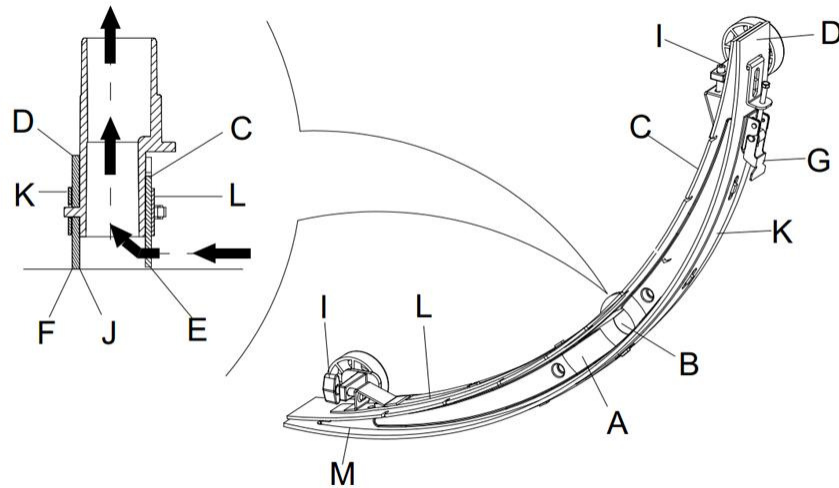

Figure 15
2. Press the power switch (41) to the “O” position to turn off the machine.
3. Unscrew the fixed handle (16) of the squeegee; take off the connector connecting the Recovery Vacuum tube of the squeegee, and take off the squeegee.
4. Use the squeegee lifting handle (14) to lift the squeegee support frame.
5. Clean the squeegee (Figure 15). Clean in particular the groove (A, Figure 15) and the dirt and fragments on the Vacuum tube. Check if the front squeegee blade (C) and the rear squeegee blade (D) are intact, and if there are broken edges and cracks. Change them if necessary (refer to the steps in the following section).
1. Following the methods related in the previous section clean the squeegee (Figure 15)
2. Check the edge (E, Figure 15) of the front squeegee blade and the edge (F) of the rear squeegee blade (D). On the whole length, they should be on the same level. Otherwise, adjust their heights through the following procedure.
- Loosen the clip (G) to let the rear squeegee blade (D) separate from the bracket (M) for the adjustment of the position of the squeegee. After the adjustment, lock the clip once again.
- Loosen the screw on the handle (I) to adjust the front squeegee blade (C); tighten the handle screw after adjustment.
3. Check if the front squeegee blade (C) and the rear squeegee blade (D) is intact and if there are broken edges and cracks. If necessary, change them according to the following ways. Check the front edge of the rear squeegee blade (J) whether it has been worn. If worn, it can be installed upside down (the top edge is required to be intact). If the top edge is also worn, change it by following the procedure below:
- Loosen the clip (G) to let the pressure blade separate from the bracket (M), take off the clip bar (K), and then change or turn the rear squeegee blade (D) upside down. Re-install the rear squeegee blade in the reverse order of taking it off.
- Loosen the handle screw (I) and take off the front clip bar (L), and then change the front squeegee (C).